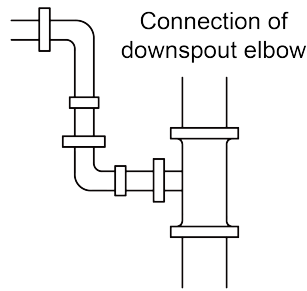

Fig.4.41
- NO2: Down elbow connection as shown in Fig.4.41;